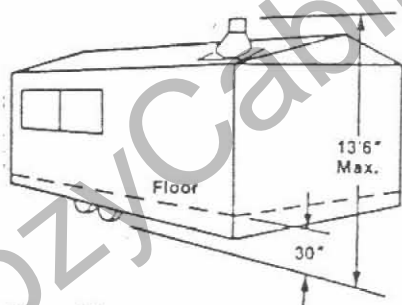

Figure 32
2) The height of flashing and chimney sections which project above the roofline shall not exceed 13'6" from ground level for transportation purposes. In (Figure 32), it is assumed the floor level of the Manufactured Home is 30" above the ground.